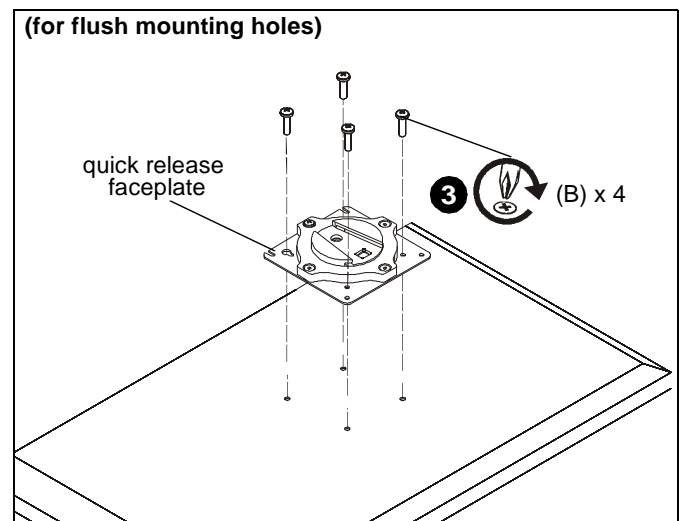

Figure 3
- Using Phillips screwdriver, carefully install four M4x14mm screws (B) through corresponding holes on faceplate and into the mounting holes on the display. (See Figure 3)